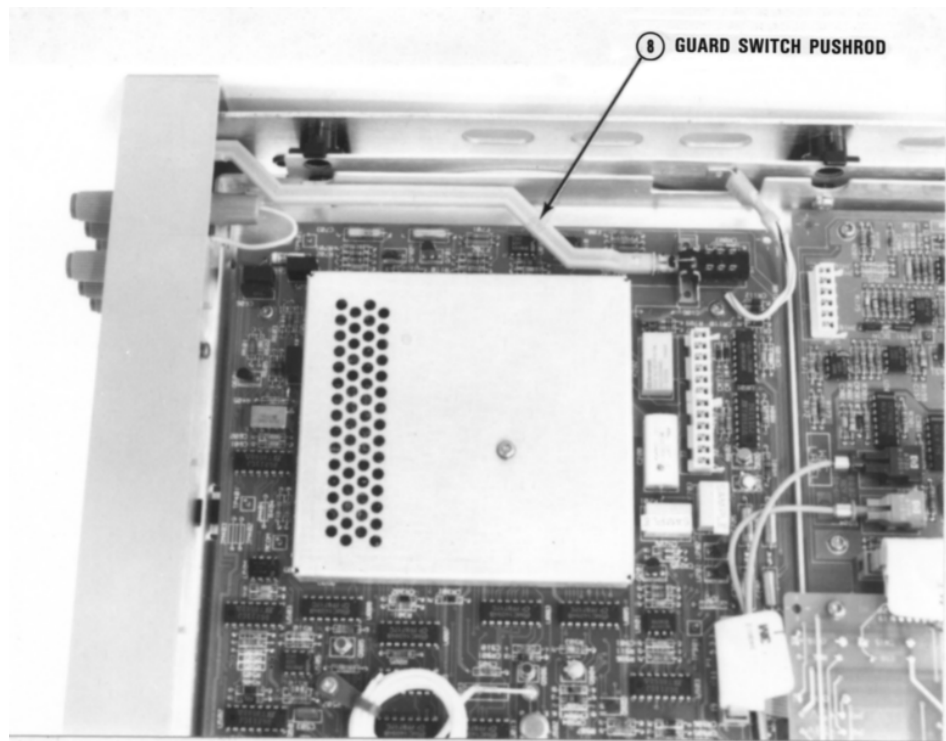

Figure C-6 Guard switch and pushrod location
- 2** Refer to **Figure C-6**, Locate the pushrod for the Guard switch. Pull the pushrod off. You may need to pry the pushrod loose with a small flat blade screwdriver. Set the switch in the position it is to be used.